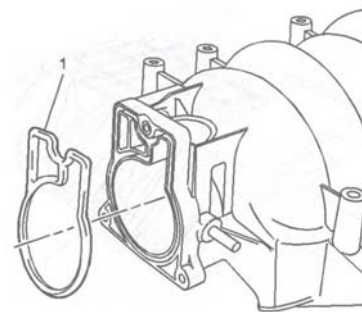

Fig.16
- On FAST™ 92mm Intake, install new provided throttle body seal (FAST™ Part #54041) to new manifold (Fig.16). Next, bolt FAST™ 92mm Big Mouth Throttle Body™ (sold separately) to intake, using the provided 4 bolts, M6 (10mm hex).